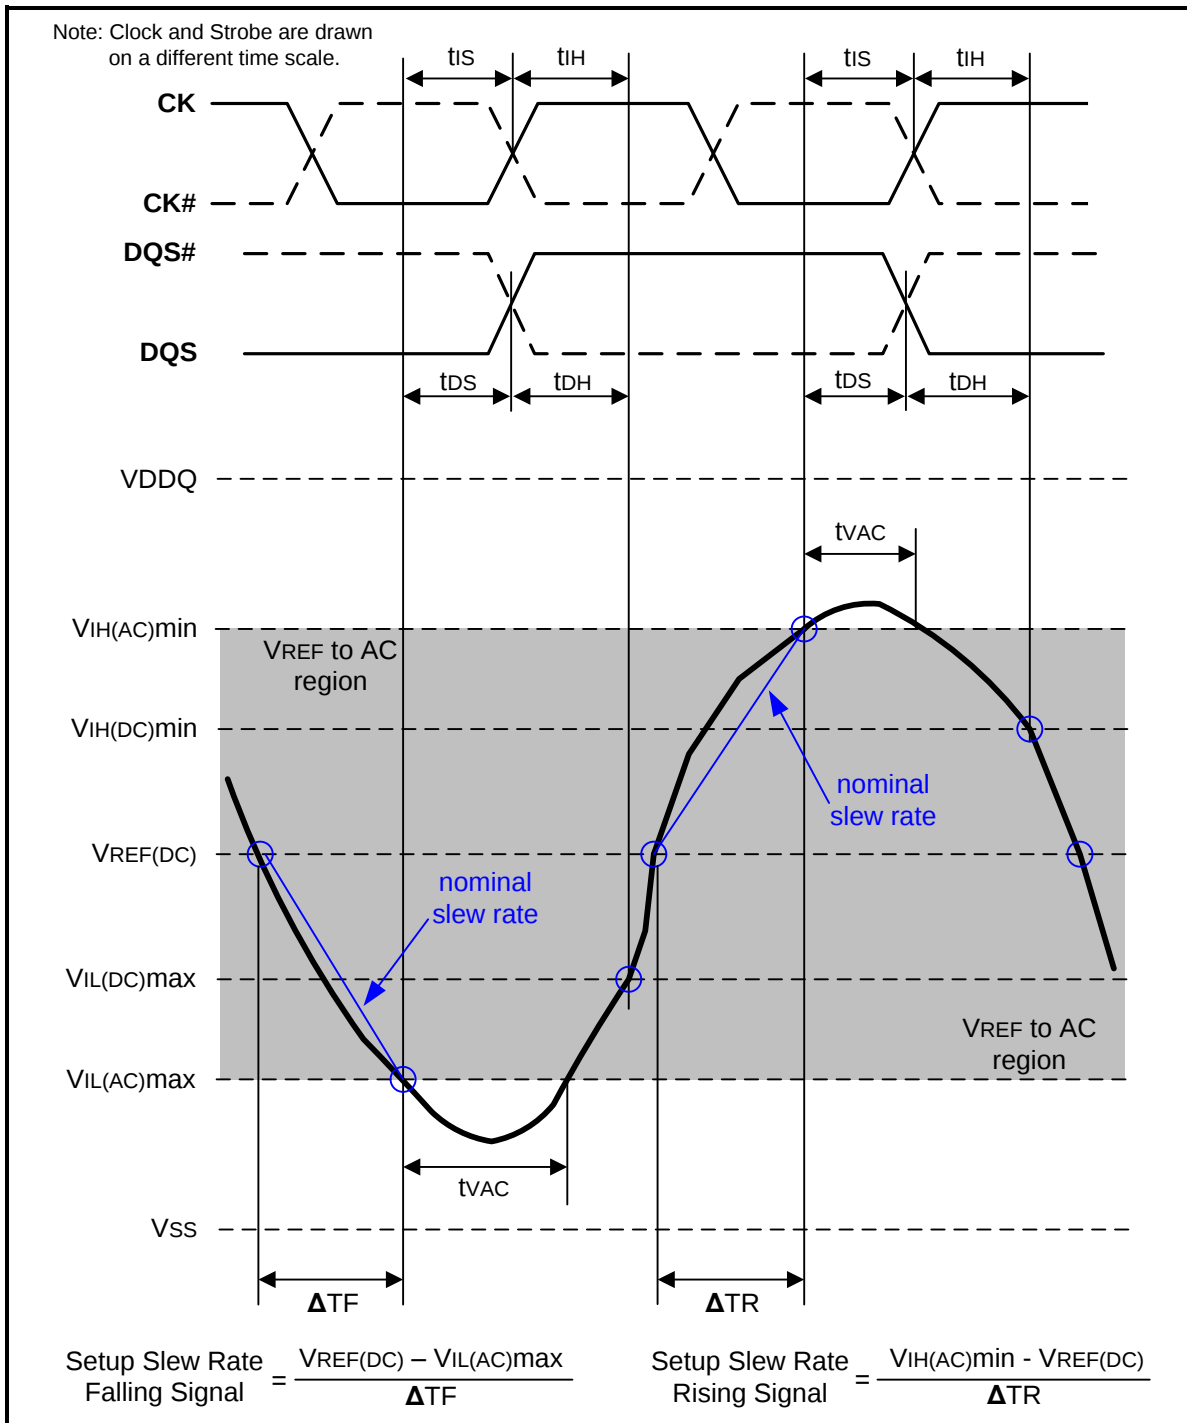
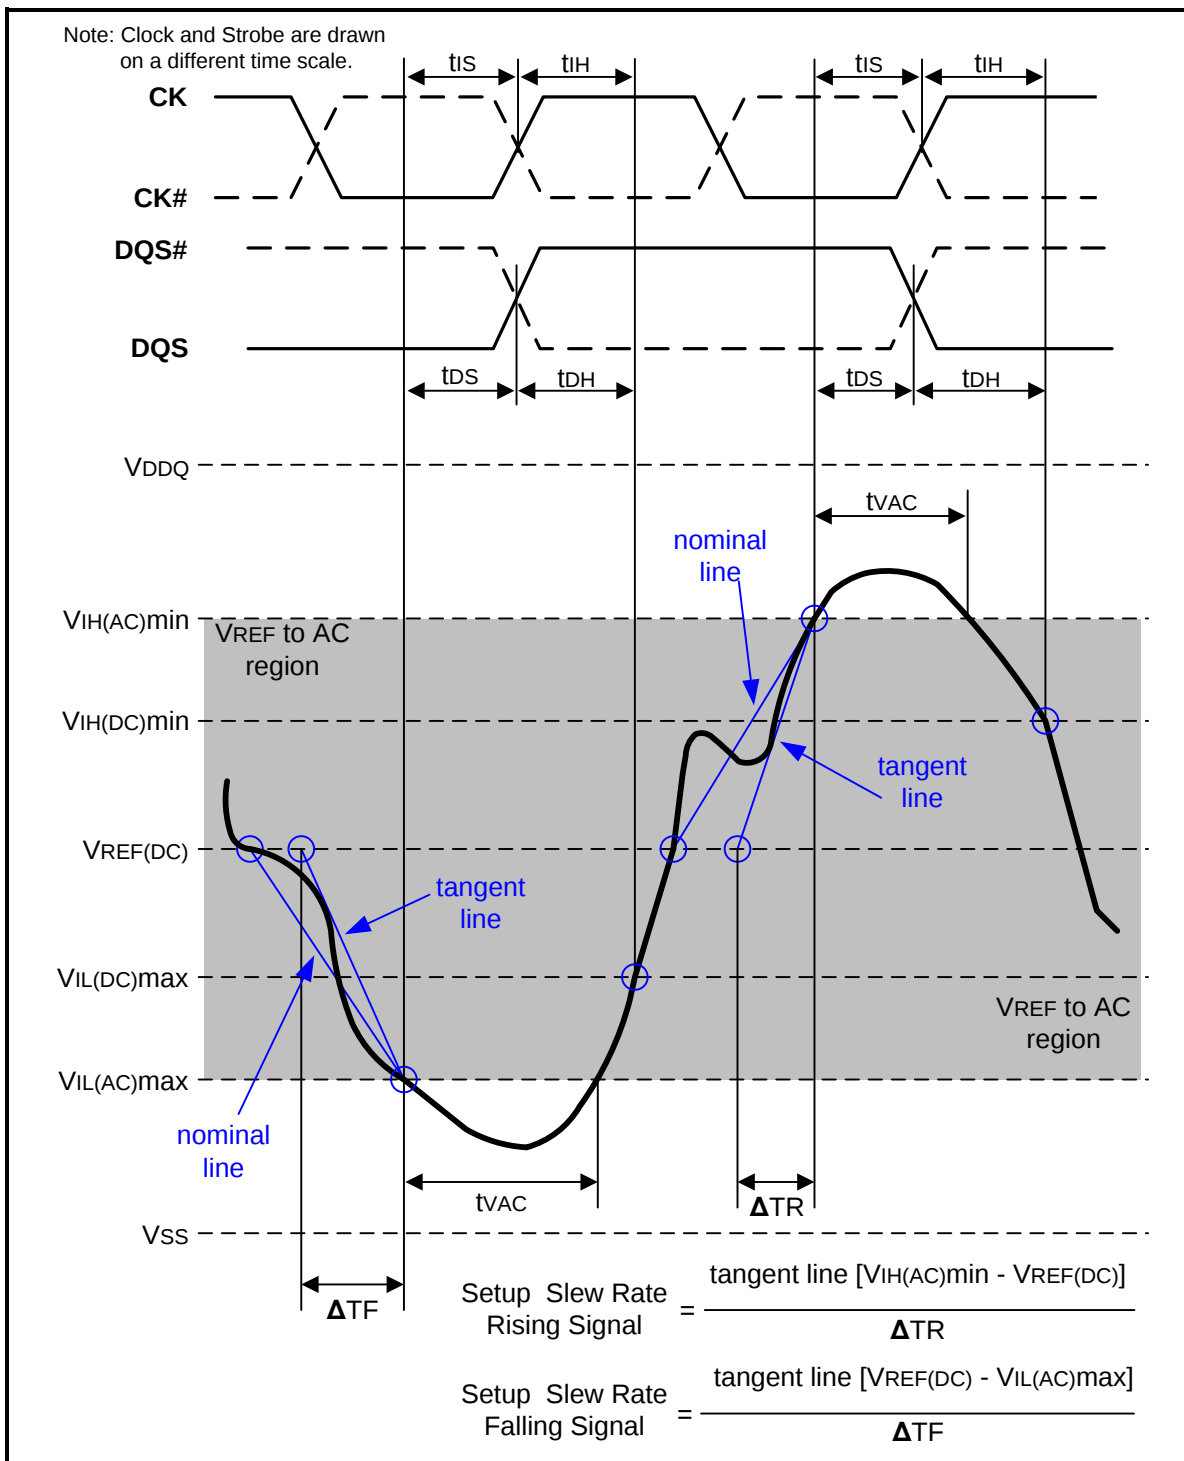

Figure 107 – Illustration of nominal slew rate and t_{vac} for setup time t_{DS} (for DQ with respect to strobe) and t_{IS} (for ADD/CMD with respect to clock)
Figure 109 – Illustration of tangent line for setup time t_{DS} (for DQ with respect to strobe) and t_{IS} (for ADD/CMD with respect to clock)
Setup (t_{IS}) nominal slew rate for a rising signal is defined as the slew rate between the last crossing of $V_{REF}(\text{DC})$ and the first crossing of $V_{IH}(\text{AC})_{\text{min}}$. Setup (t_{IS}) nominal slew rate for a falling signal is defined as the slew rate between the last crossing of $V_{REF}(\text{DC})$ and the first crossing of $V_{IL}(\text{AC})_{\text{max}}$. If the actual signal is always earlier than the nominal slew rate line between shaded 'VREF(DC) to AC region', use nominal slew rate for derating value (see Figure 107). If the actual signal is later than the nominal slew rate line anywhere between shaded 'VREF(DC) to AC region', the slew rate of a tangent line to the actual signal from the AC level to $V_{REF}(\text{DC})$ level is used for derating value (see Figure 109).
Setup (tDS) nominal slew rate for a rising signal is defined as the slew rate between the last crossing of VREF(DC) and the first crossing of VIH(AC)min. Setup (tDS) nominal slew rate for a falling signal is defined as the slew rate between the last crossing of VREF(DC) and the first crossing of VIL(AC)max (see Figure 107). If the actual signal is always earlier than the nominal slew rate line between shaded 'VREF(DC) to AC region', use nominal slew rate for derating value. If the actual signal is later than the nominal slew rate line anywhere between shaded 'VREF(DC) to AC region', the slew rate of a tangent line to the actual signal from the AC level to VREF(DC) level is used for derating value (see Figure 109).